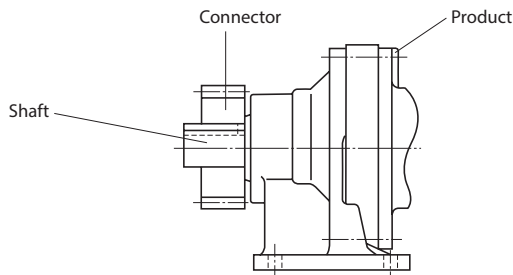
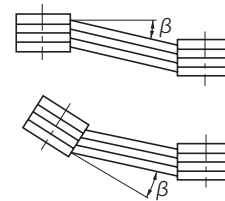

Figure 5-2
Figure 5-3
(2) When Using Chains, Sprockets, or Gears
- The load point of the sprocket or gear should be nearer to the product than to center of the shaft. (See figure 5-2)
(3) When Using a V Belt
- The parallelism, eccentricity β between the two pulleys should be within $20'$. (See figure 5-3)